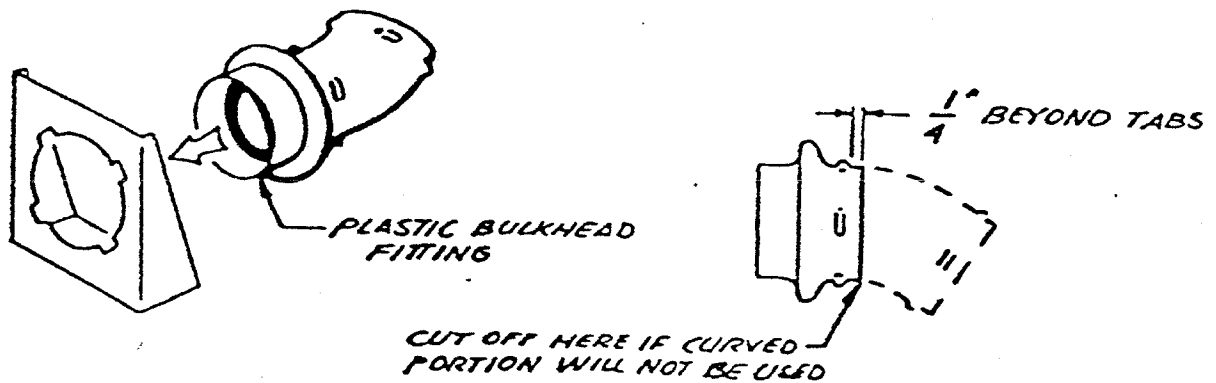

FIG. 7
6. Drill four 3/16" diameter holes through the air inlet hood bracket around the perimeter of the center hole. See fig. 7.